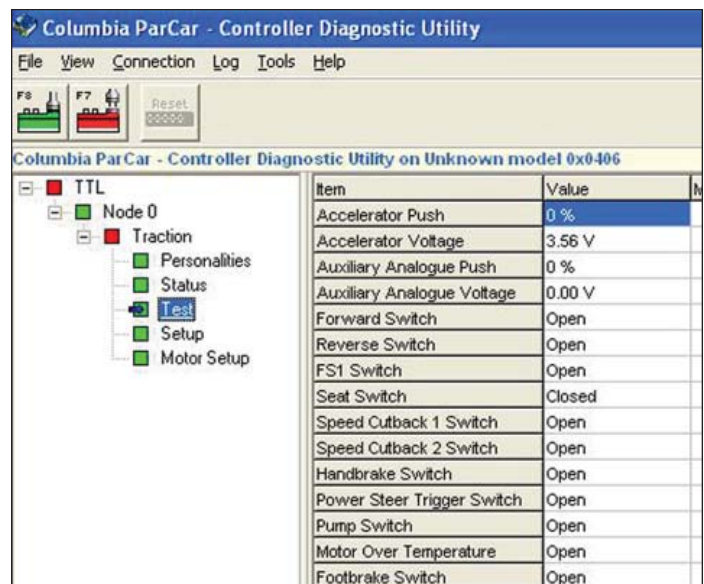

Figure 4-2. Basic Test Inputs
1. Open the connection between the controller and the PCPAK utility. On the left side of the screen, select the “test” section under the “traction” pull down. This screen will display the inputs the controller is observing at that time (Figure 4-2).